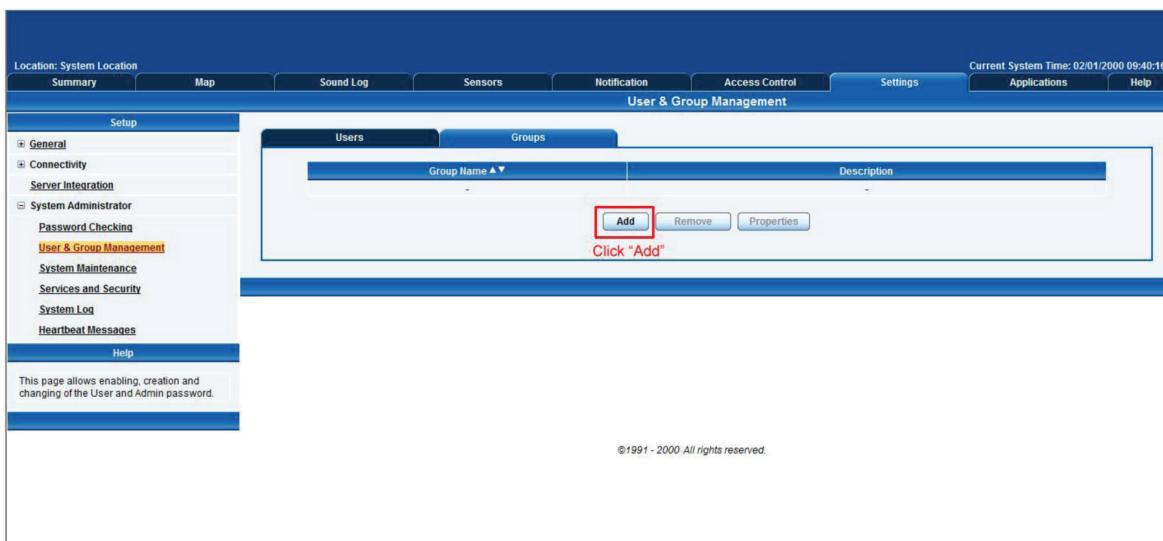

Figure 3-14. Groups page.
3. Click on the “Go to Group Setup” link that will take you to the Groups page shown in Figure 3-14.
4. Click on the “Add” button to add your groups as shown in Figure 3-14.